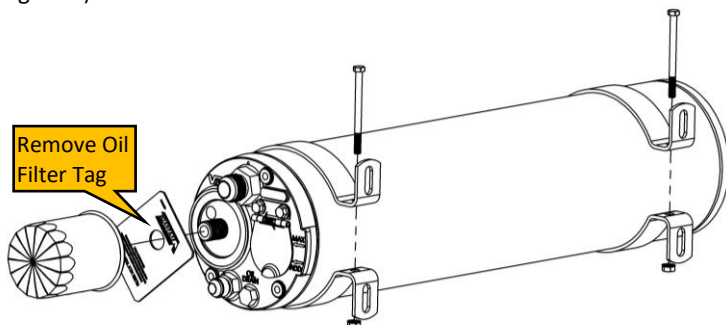

Figure 2 - Installing Tank Brackets
- Place the tank on a workbench and remove the oil filter tag (Figure 2).
- Remove the two ¼" pinch bolts from the C-clamps. Expand the clamps slightly and slide them over the front of the tank (Figure 2).
- Position the clamps in a suitable location for attachment to piece of equipment (Figure 2).